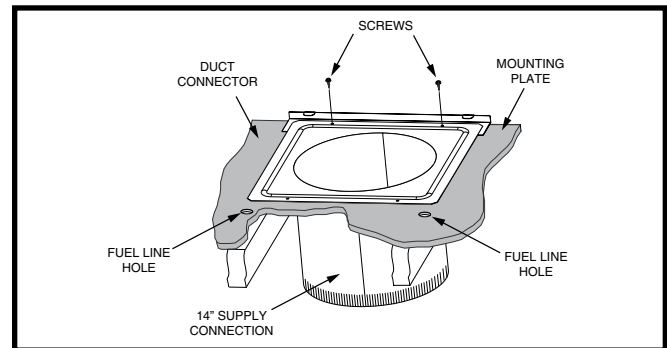

Figure 13. Round Duct Connector Installed
3. Install the mounting plate under the back side of the duct connector. See Figure 13 \(page 8\). **NOTE:** Align the screw holes in both components.